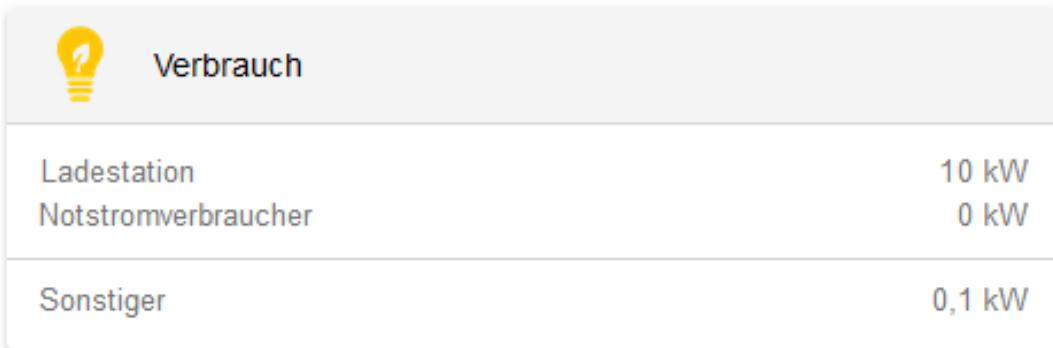

Figure 12. Consumption widget
- Figure 12. Consumption widget